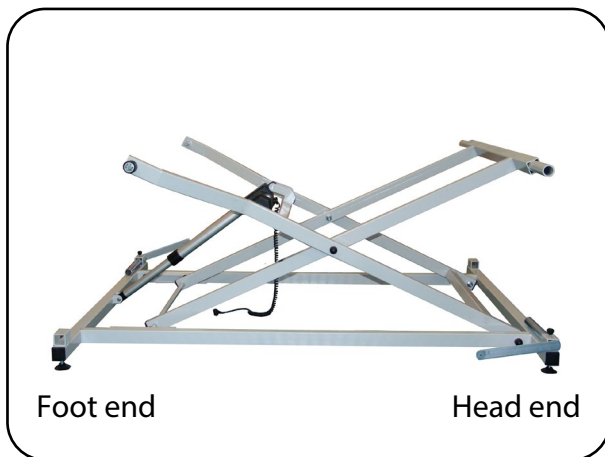

Fig. 6.1.01 – Scissor lift in top position
1. Place the scissor lift into the existing bed border. The drive must face towards the foot end (Fig. 6.1.01).
3. Move the scissor lift to its top position (Fig. 6.1.01). Note that the manual control unit may need to be unlocked beforehand (see chapter on operation, section **Lock function**).